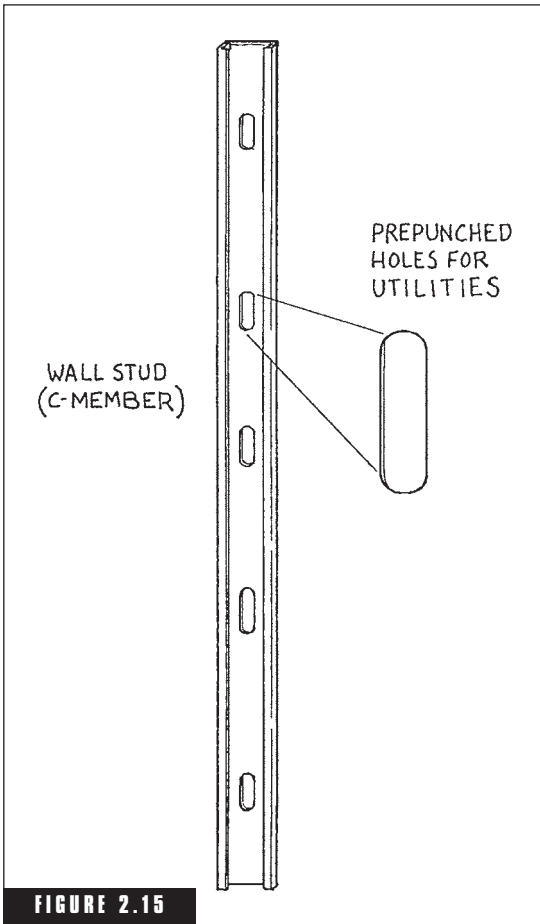

FIGURE 2.15
8. Screw-attached metal framing members eliminate squeaks and “nail pops,” which frequently occur with wood. Screws and bolts won’t loosen or pull out under stress like nails can. Steel framing can be manufactured with openings and punch-outs spaced at regular intervals, allowing utility components such as electrical and plumbing lines to be roughed-in easily, instead of drilling holes through wooden framing members. Grommets or conduits can protect the wiring from sharp edges of the punch-outs (Fig. 2.15).